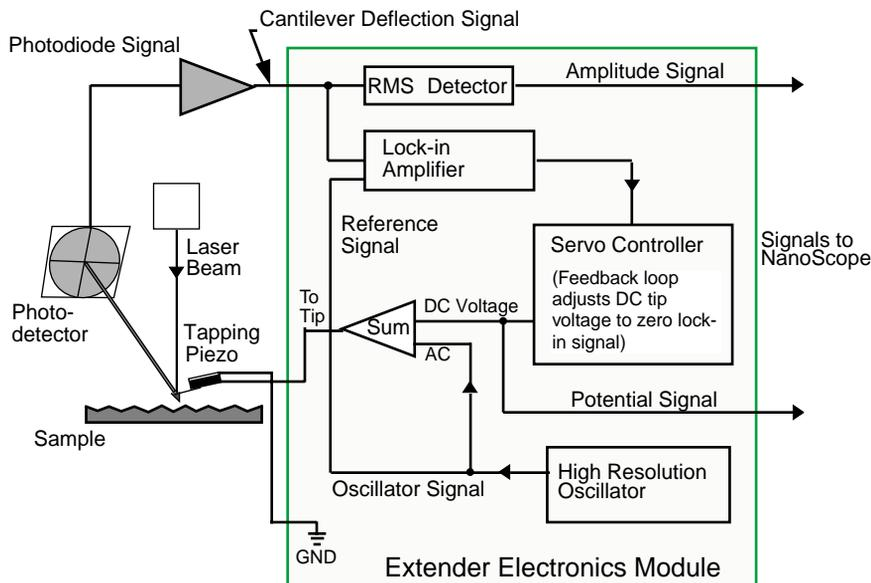

Figure 230-21 Simplified Block Diagram of Extender Electronics Module in Surface Potential Mode.
A block diagram of the surface potential measurement system is shown in Figure 230-21. On the first pass, the sample topography is measured by standard Tapping-Mode. In TappingMode the cantilever is physically vibrated near its resonant frequency by a small piezoelectric element. On the second pass, the piezo that normally vibrates the cantilever is turned off. Instead, to measure the surface potential, an oscillating voltage
5. Use **Cantilever Tune: AutoTune** (as described in Section 230.4.1) to locate the cantilever's resonant peak. Remember, however, that the Extender box has been reconfigured so that the phase detection circuitry now acts as a lock-in amplifier. Any procedures that are normally used to view or adjust the phase signal will now affect the lock-in signal instead (see Figure 230-21).